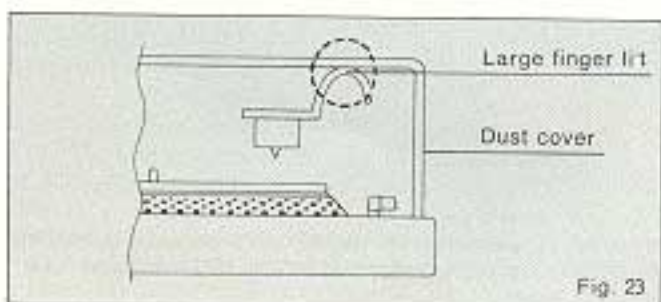

Fig. 23
### ⑦ When you use other head shells, be careful about the head shell configuration. (See Fig. 23)